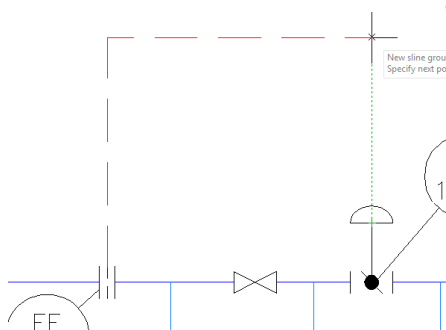

Figure 2-72 Snapping to the midpoint of the control valve
7. Move the cursor towards the right and click when the cursor snaps to the mid point of the control valve, as shown in Figure 2-72.